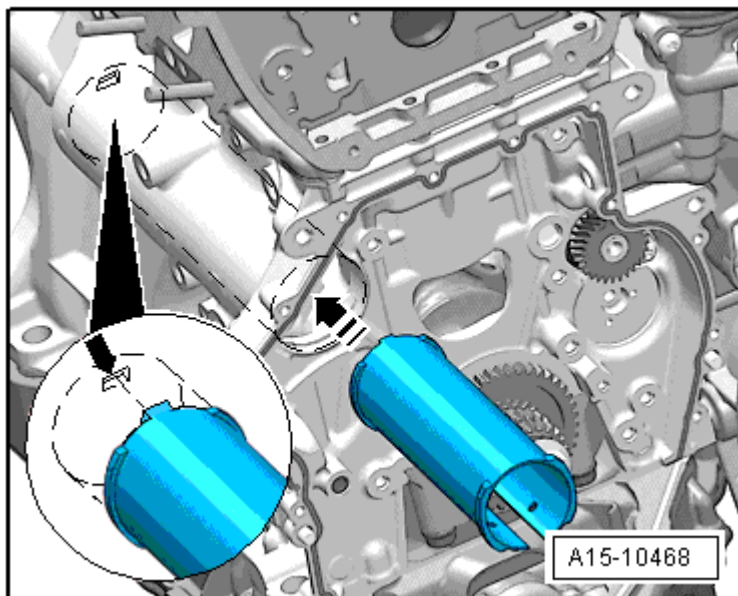

Fig. 15: Identifying Pipe For Balance Shaft - Installation Position
- Installed position, refer to **Fig. 15**.